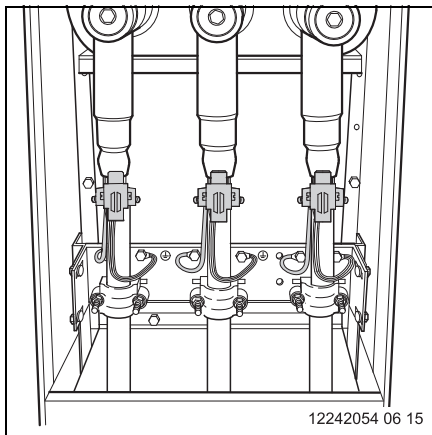

Fig. 29
**Short-circuit indicator fitted to the single-conductor cable (Fig. 29).**